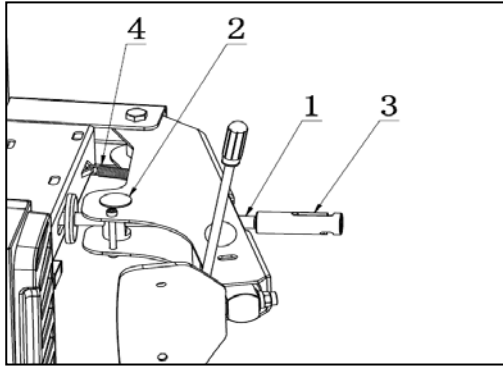

FIG 9
- b) As shown in Fig9, plug cylinder rod (FIG9-1) into the hole of bead breaking arm slide bush (FIG9-2). Twist the adjusting device (FIG9-3) onto the end of cylinder rod.
- c) Hang the spring (FIG9-4) like the FIG9.